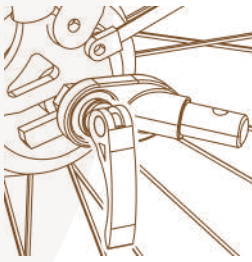

Figure 10
1. Quick release Axle: Remove the quick release from the left side of the bike's rear axle. Install the hitch between the quick release and frame. Tighten the quick release following the bike manufacturer's manual. Hitch can remain on the bike when the trailer is removed (Figure 10).